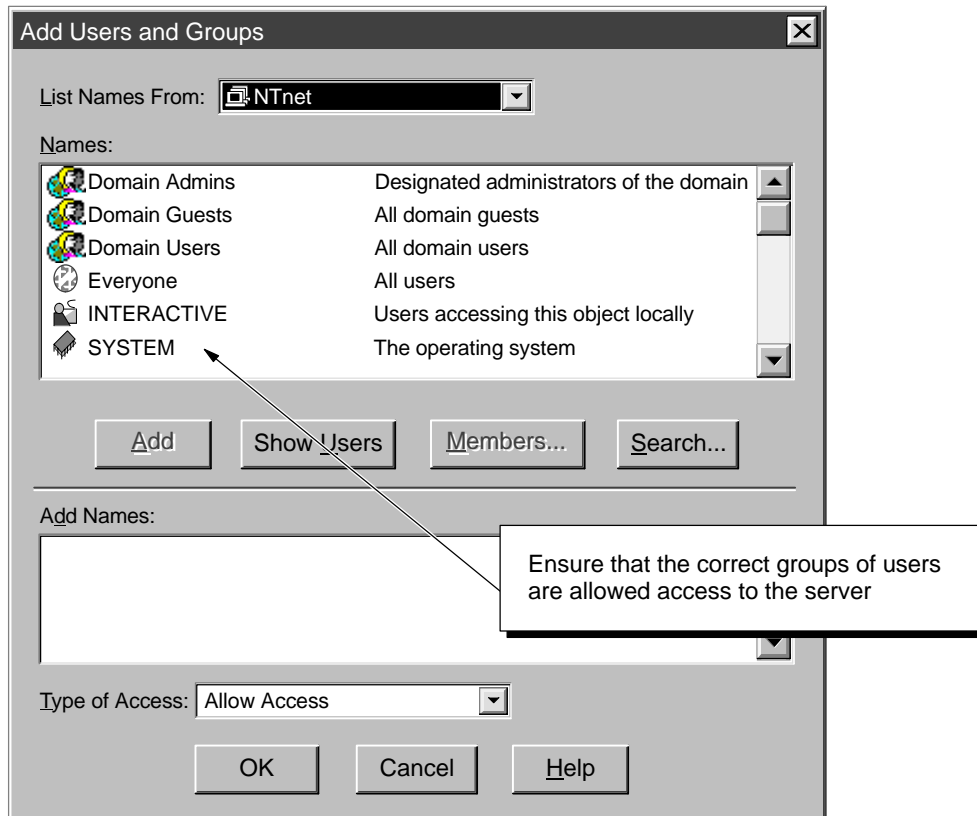

Figure E-11 Changing the Access Permissions for Users or Groups
3. If “Everyone” (or the appropriate subset of users) is not shown in the “Permissions” dialog “Name” list, click on the “Add” button to display the “Add Users or Groups” dialog box. See Figure E-11.
4. Use the “Add Users and Groups” dialog (Figure E-11) to add users/groups as required.